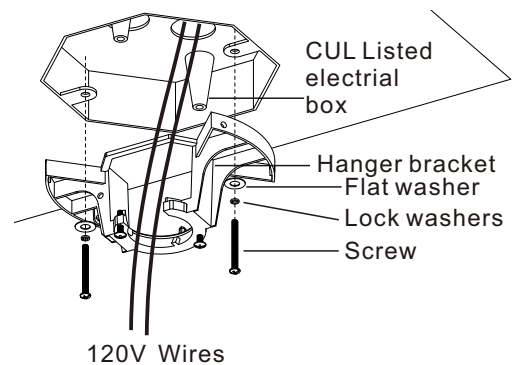

Figure 10
Step 1. Pass the 120-volt supply wires through the center in the ceiling hanger bracket as shown in (Fig. 10)